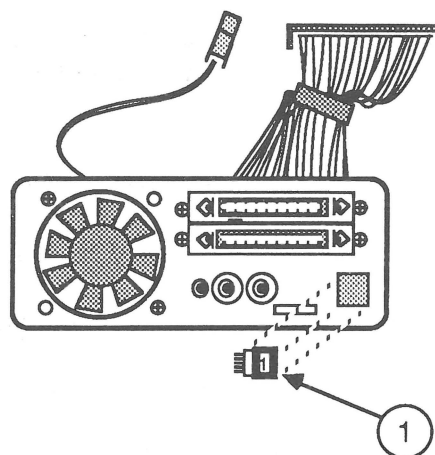

FIGURE 13
1. Holding down the four arms of the switch, pass the switch (Figure 13, #1) from outside to inside through the opening in the metal case and release the arms.